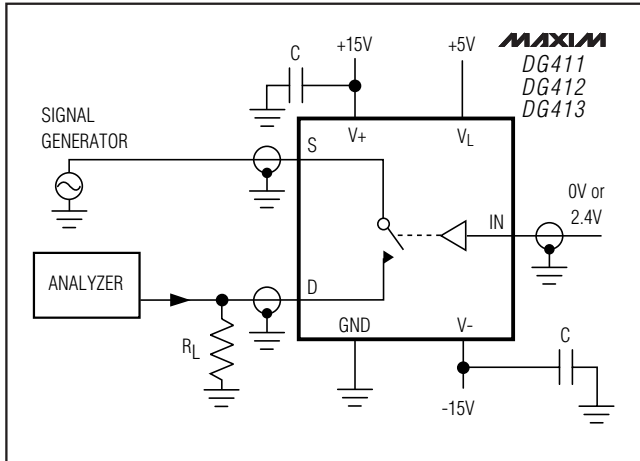

Figure 5. Off-Isolation
- Note 5:** Off-Isolation = 20 log (VD/VS), VD = output, VS = input to off switch. See Figure 5.